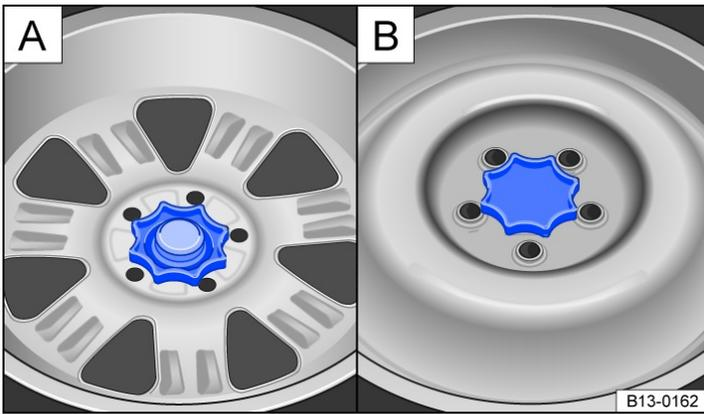

Fig. 1 In luggage compartment: **A**: handwheel for securing spare wheel, **B**: handwheel for securing temporary spare wheel.
- Fully unscrew the handwheel in the middle of the spare wheel → Fig. 1 A or temporary spare wheel B anticlockwise.